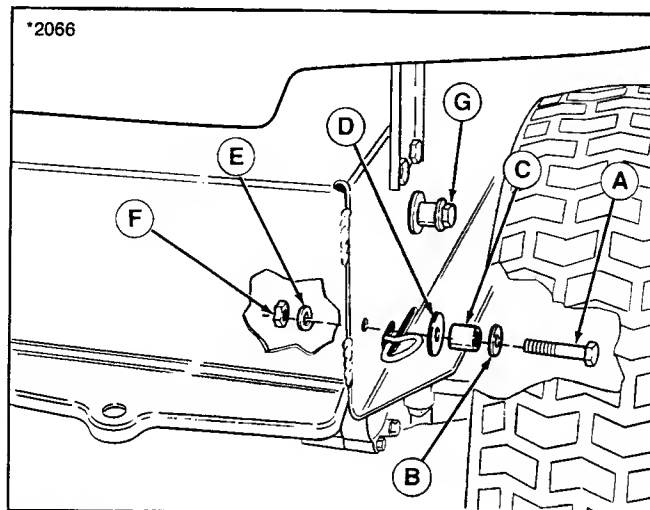

Figure 2.
4. Assemble spacers into lower frame holes as shown in figure 2. At rear location, install 3/8-16 x 1-3/4" capscREW (A, figure 2) through small washer (B, 7/8" O.D.), spacer (C), large washer (D, 1-1/4" O.D.) and frame. Secure with lockwasher (E) and nut (F).